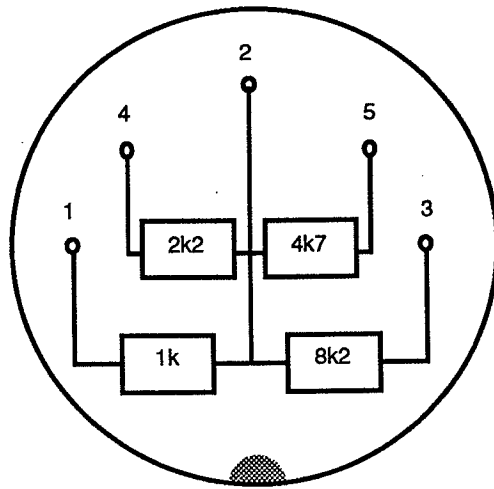

Fig 1 Test Plug (viewed from solder side)
7. If some or all of the BBC Microcomputers function in the very short network, but not in the main network, then first check that the network connections are all correct. The easiest way to do this is with a multimeter (set to an ohms range) and a special DIN plug wired with resistors as shown in Fig. 1 below.